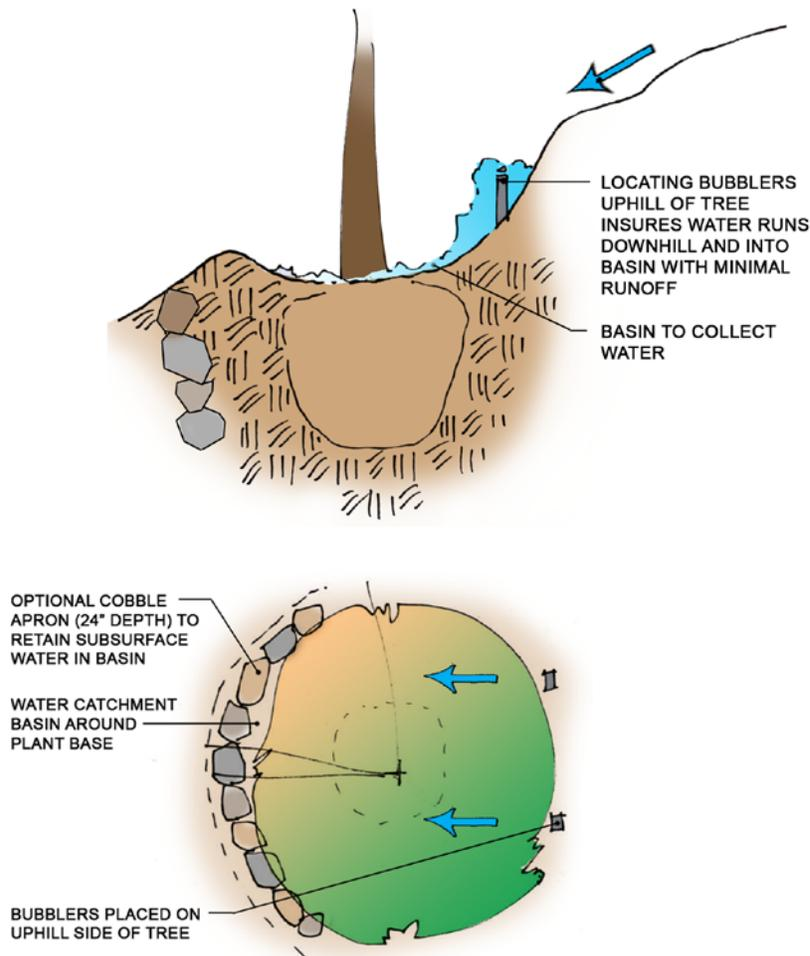

Figure 46. Bubbler Placement on Slopes
- Place bubblers on the uphill side of plants. See Figure 46 for an example of this type of installation.